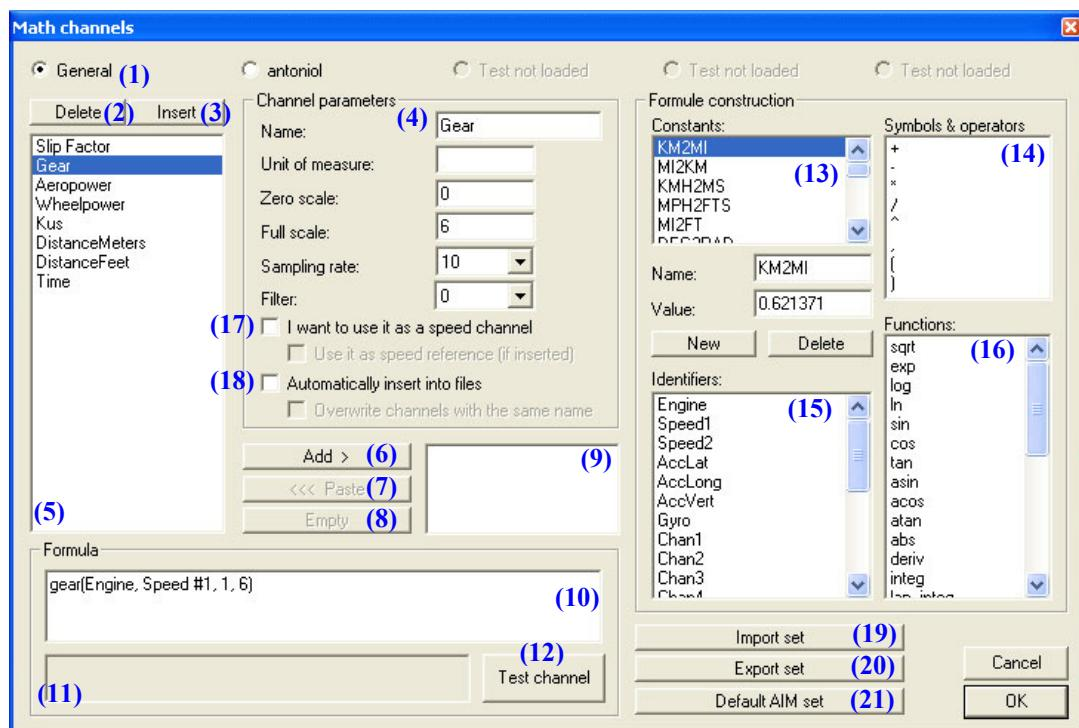

Fig. 8.1– Math channels window
The Math channel window is shown in Figure 8.1 and described below.
In the window's upped side it is shown 5 checkboxes (1): the "General" one is always enabled, while the other ones are enabled if the corresponding test has been loaded (in Figure 8.1 it has been loaded one test only). The selected checkbox will start blinking.